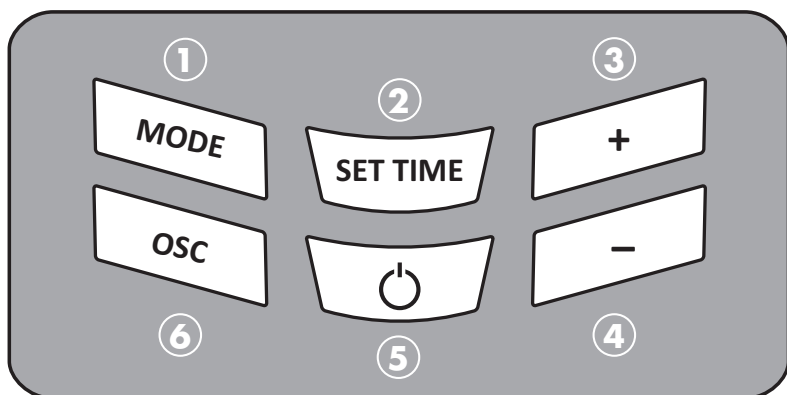

Fig. 3a: Control unit
3. Press the "POWER" button (see Fig. 3a/b, No. 5).
4. Press "MODE" or "HEAT MODE" (see Fig. 3a/b, NO. 1) to switch to the desired heating level. The following options are available for selection.
1. The temperature appears in the display. You can set this to the desired temperature using the "+" (see Fig. 3a/b No. 3) and "-" (see Fig. 3a/b No. 4) buttons.
1. Press the Oscillation switch (see Fig. 3a/b No. 6) to activate the function. The tower heater now moves from side to side at an angle of 90°.
2. To deactivate the Oscillation function, press the Oscillation switch again (see Fig. 3a/b No. 6).
1. Press "SET TIME" or "TIMER" (see Fig. 3a/b, No. 2) to select the desired heating time. The Timer function provides you with the option of selecting between a heating time of 0 to 8 hours. The heater then switches off automatically
2. Press the "POWER" button (see Fig. 3a/b, No. 5). The pilot lamp (see Fig. 2, No. 2) goes out.